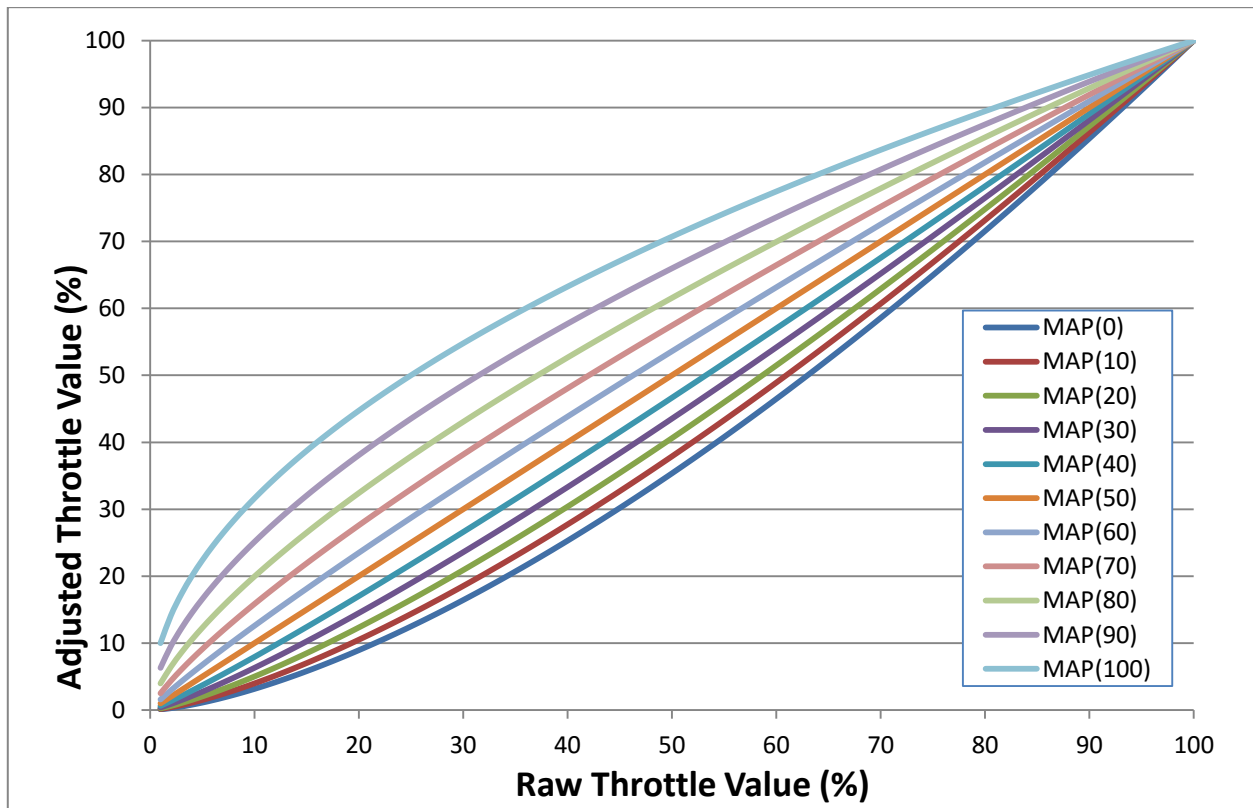

Figure 7.4 Mapping of Raw Throttle Value.
The Normal and Sport mode throttle sensitivity settings are increased by moving the corresponding Scroll bar from left to right. With the Scroll Bar far left corresponding to the MAP(0) curve the motor torque increases very gradually initially. When the scroll bar is centred the throttle sensitivity is linear throughout in entire throttle range corresponding to the MAP(50) line in Figure 7.4. As the Scroll Bar is moved to the far right MAP(100) the motor torque increases quite rapidly as the throttle is depressed.